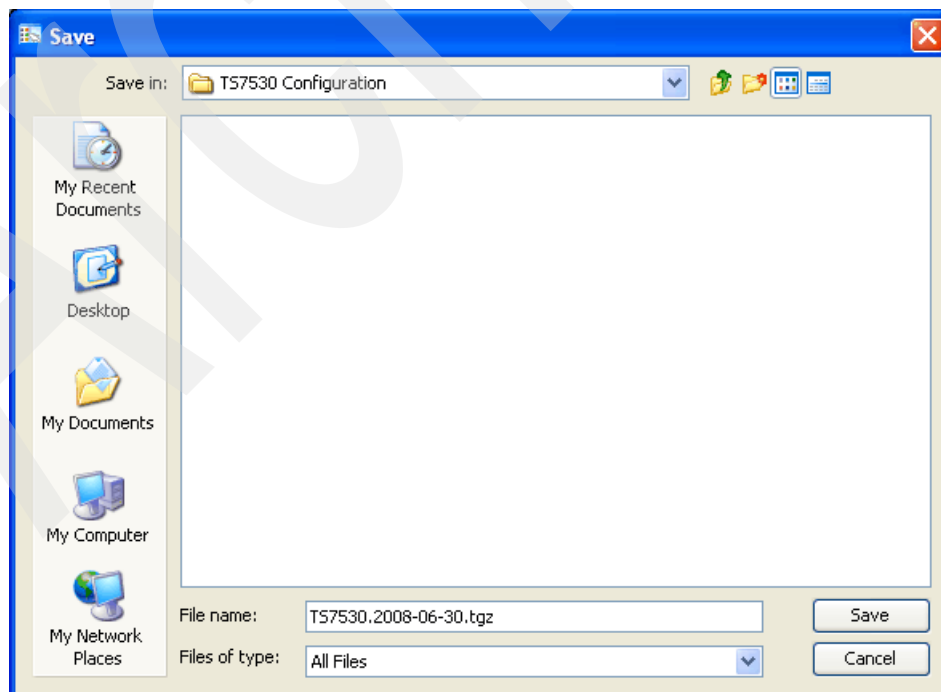

Figure 12-16 Manual backup of configuration
2. The Save As window opens (Figure 12-16), allowing you to choose the name and location to place the configuration file. Notice that you will *not* be presented with a suggested file name. We therefore recommend that you use the following format: